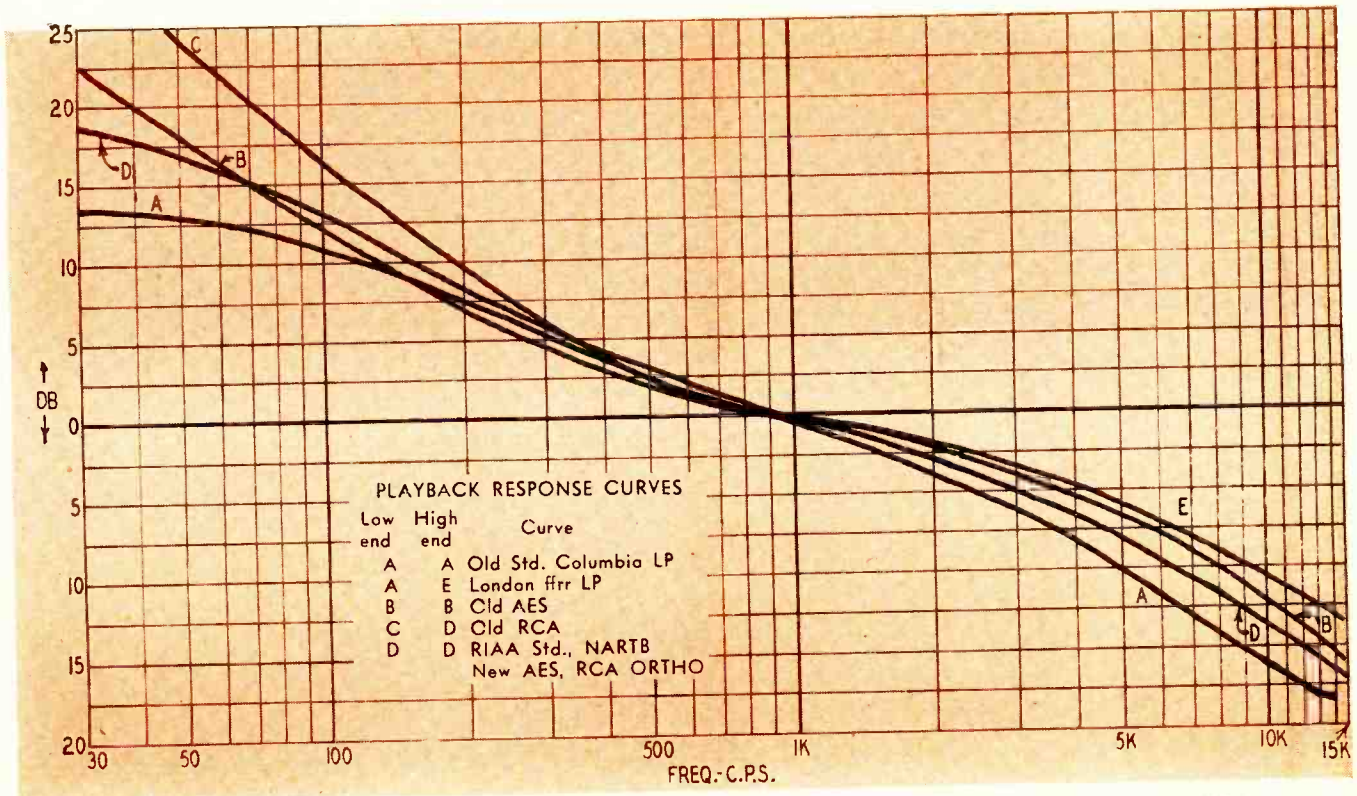

Fig. 1—Graph illustrates various recording curves used by leading record manufacturers in the United States.
ica, Inc., and has also been recommended by the Audio Engineering Society to replace the original AES playback curve. The new curve is identical with the Orthophonic curve which RCA Victor adopted in the fall of 1952 and with the recently adopted NARTB transcription curve. It is shown at D in Fig. 1. Comparison with the older LP curves in Fig. 1 shows that at the high end it is midway between the original LP curve (A) and the old AES curve (B). The new curve is also identical at the high end (above 1,000 c.p.s.) with the 75 μ sec pre-emphasis curve used in FM broadcasting. At the low end, a 500-c.p.s. crossover is used together with a 3-db flattening at 50 c.p.s. The original LP curve had greater bass flattening as shown at A in Fig. 1.